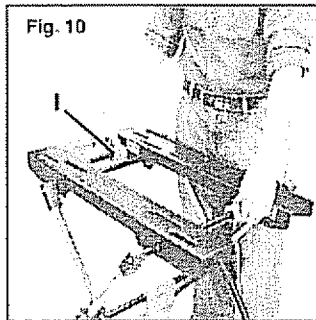

Fig. 10
4. Change the width of the Table Top Assembly if necessary to accommodate the bench top tool. To change the width of the Table Top Assembly, see Figs. 10 through 13 in Unfolding and Setting Up the Tool Work Stand. Place the Bench Top tool on the Table Top Assembly, align the mounting holes in the bench top tool with the holes on the table top assembly, and use the bolts recommended in your bench top tool's manual to connect them as shown in Fig. 17.